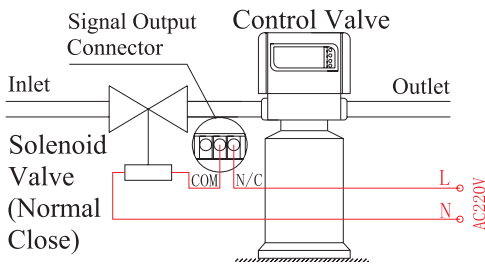

Figure 3-2 Wiring of Solenoid Valve on Inlet Pine
② Control Inlet Solenoid Valve (set to b-02)
- **Method1:** the wiring refers to Figure 3-2. It uses the two wiring terminals(N/C, Normal Connection terminals) of the Signal Output Connector (CN07) to control inlet solenoid valve.
As is shown in Figure 3-2, when the inlet pressure is high, it is necessary to install a solenoid valve in the inlet pipe in order to make the valve switch work properly. When the valve is at position of Service, Backwash, Brine & Slow Rinse, Fast Rinse and Brine Refill, the solenoid valve is powered on and open. When the valve is switching, the solenoid valve is powered off and closed, so no high pressure water flows into the valve to make the valve switch properly. It could prevent the problem of mixing water and water hammer when the valve is switching.